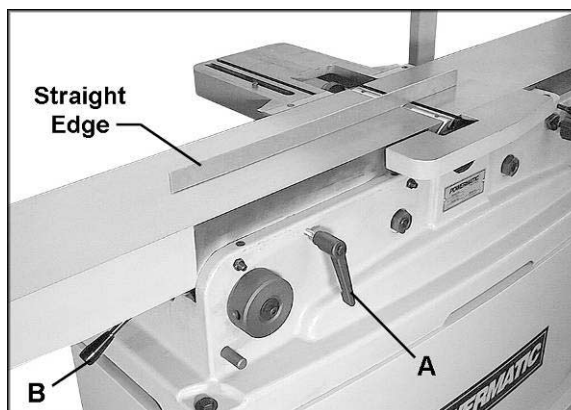

Figure 23
4. Loosen the locking handle on the outfeed table (see A, Figure 23). Use the lifting handle (B, Figure 23) to raise the outfeed table higher than the cutterhead.
2. Place a straight edge upon the outfeed table and extending over the center of the cutterhead as shown in Figures 23 and 24.
5. Lock the outfeed table at that setting by tightening the locking handle (A, Figure 23).